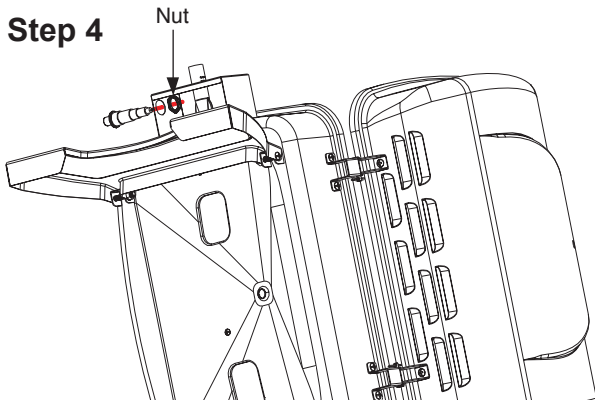

Fig. 4
*Procedure:* Remove the nut from the igniter. Install the igniter into the hole on the front of the Control Panel. Secure the igniter to the Control Panel with the nut as shown in Fig. 4.